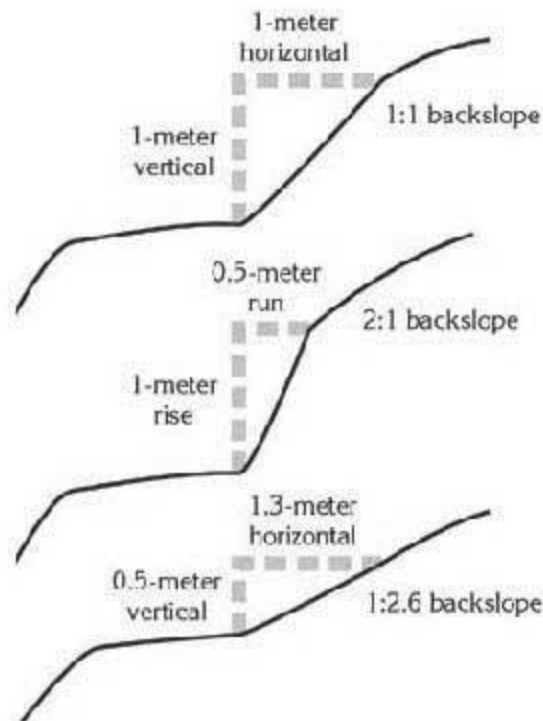

Figure 13--Slopes are noted in metric as a ratio of vertical to horizontal, or "rise" to "run."
While often described as a percent, slopes are also described as a ratio of vertical to horizontal, or "rise" to "run." The protocol for metric (SI) notation continues this tradition, with the additional change of eliminating fractions from the notation. For slopes flatter than 1:1, express the slope as a ratio of one unit vertical to the number of horizontal units. For slopes steeper than 1:1, express the slope as the ratio of the number of vertical units to one unit horizontal. Figure 13 shows examples.